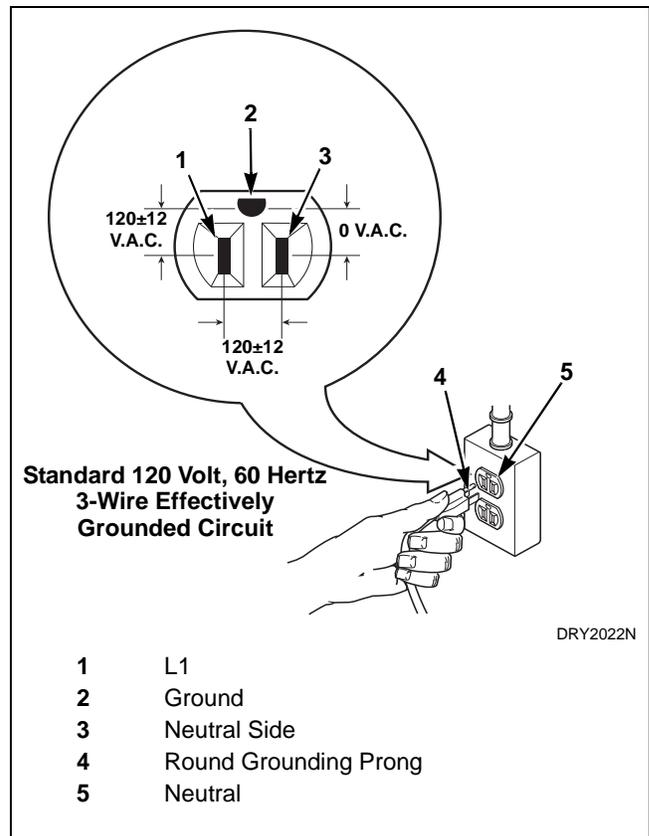

Figure 14
The three-prong grounding plug on the power cord should be plugged directly into a polarized three-slot effectively grounded receptacle rated 110/120 Volts AC (alternating current) 15 Amps. Refer to *Figure 14* to determine correct polarity of the wall receptacle.
**NOTE:** Have a qualified electrician check the polarity of the wall receptacle. If a voltage reading is measured other than that in *Figure 14*, the qualified electrician should correct the problem.